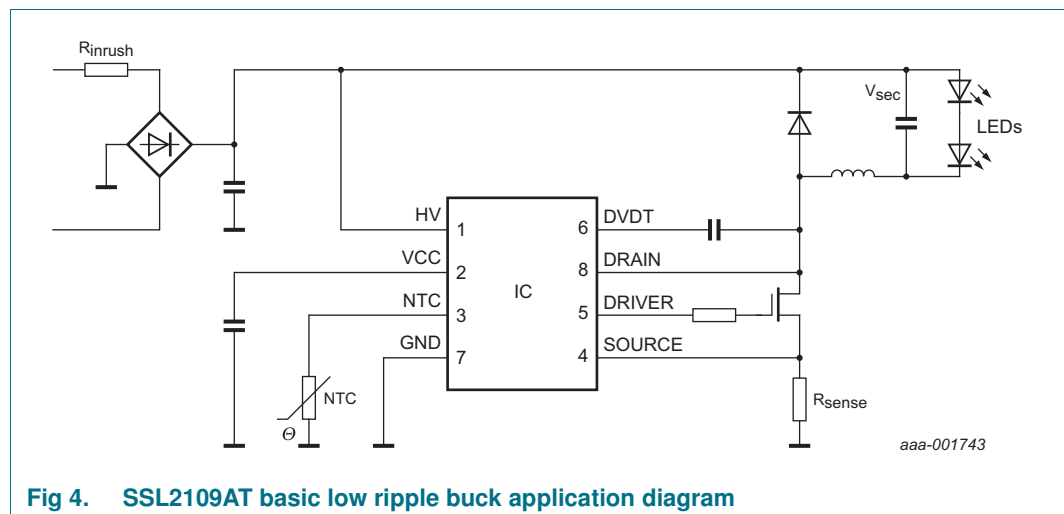
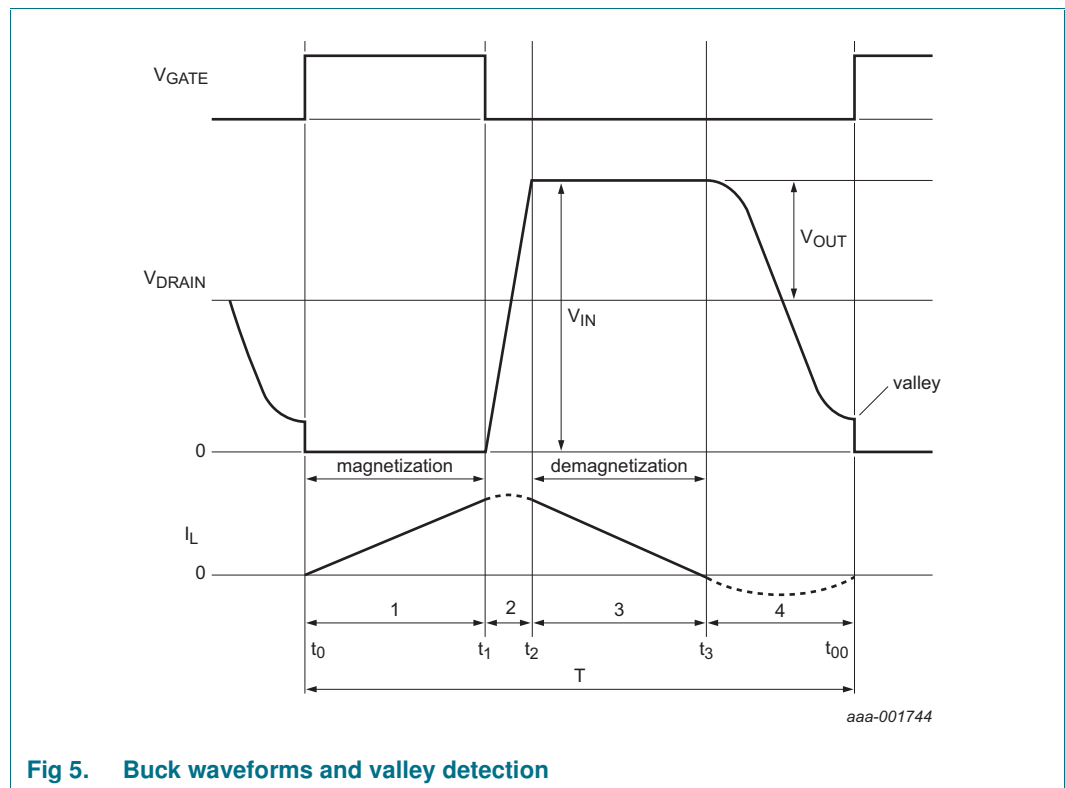

Fig 4. SSL2109AT basic low ripple buck application diagram
Fig 5. Buck waveforms and valley detection
- Low component count (see Figure 4) LED driver solution:
The converter in the SSL2129 is a Boundary Conduction Mode (BCM), peak current controlled system. See Figure 4 for the basic application diagram. See Figure 5 for the waveforms.
A new cycle is started when the primary switch is switched on (see Figure 5). In the following sections, “on” represents the conductive state and off the non-conductive state.